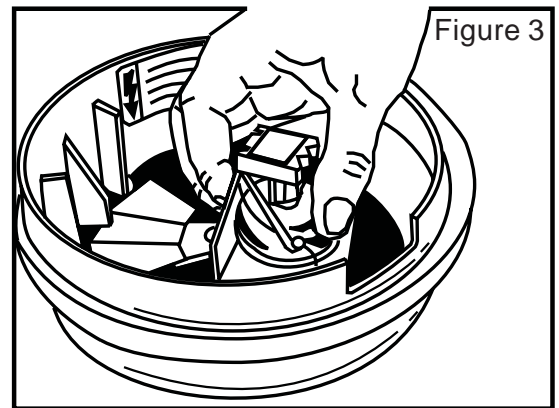

Figure 3
- Remove and discard the old bulb, and replace with spare, P/N 32504200 [white light model] or 23500100 [all other models]. Push the bulb into the socket, holding the back of the lamp holder with your fingers as shown in Figure 3.